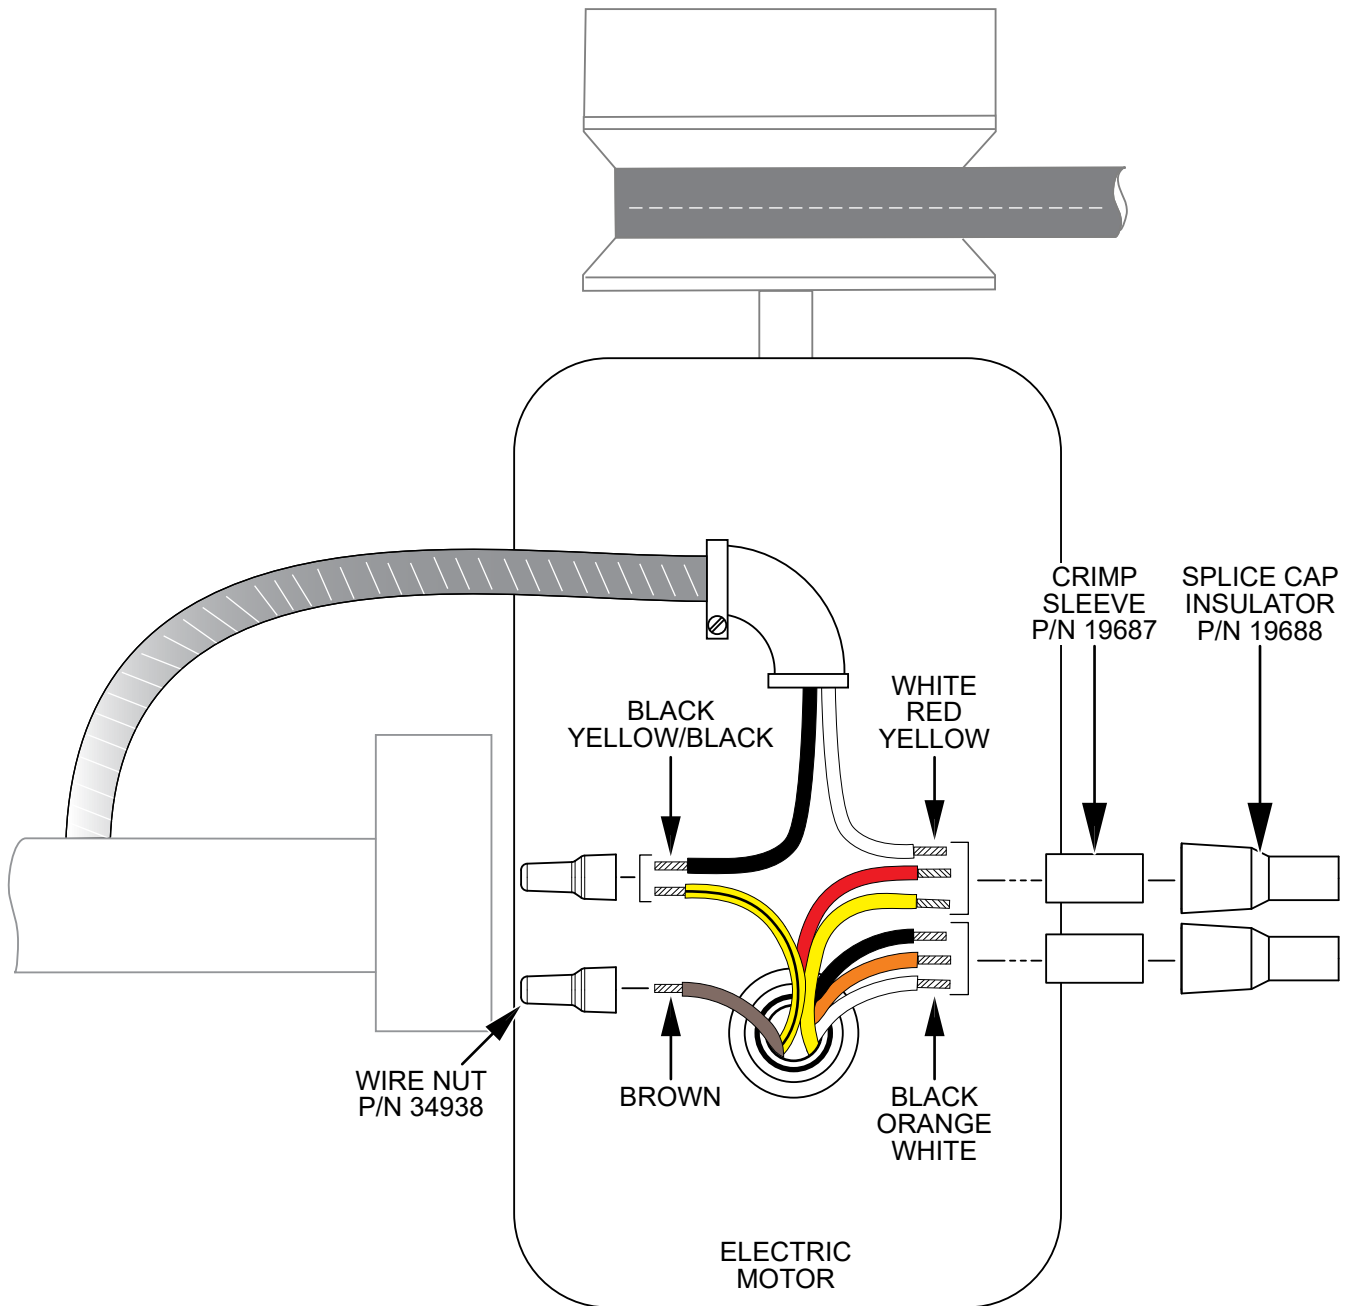

Figure 7. Motor Wiring
1. Connect the black, orange, and white motor wires as shown in Figure 7 using a crimp sleeve (P/N 19687) and splice cap insulator (P/N 19688).
2. Connect the red and yellow wires from the motor with the white wire from the handle using a crimp sleeve (P/N 19687) and splice cap insulator (P/N 19688). See Figure 7.
3. Connect the yellow/black wire from the motor with the black wire from the handle using a pre-insulated crimp 16-12 AWG wire nut (P/N 34938). See Figure 7.
4. Use the remaining pre-insulated crimp 16-12 AWG wire nut (P/N 34938) to cap off the brown wire from the motor. See Figure 7.